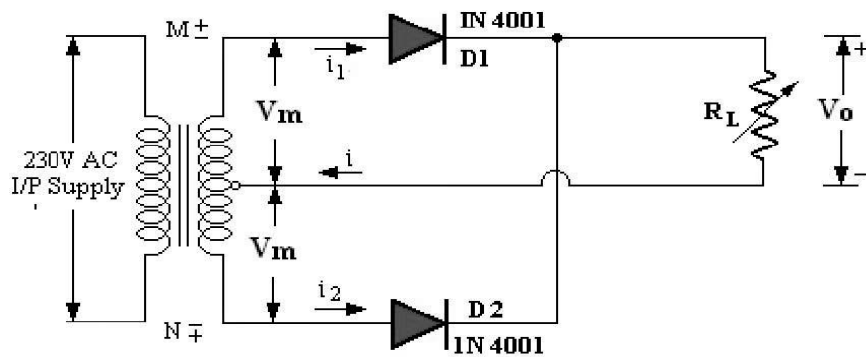

Figure 1: Full wave rectifier without filter.
Rectifier is an electronic device used for converting AC into pulsating DC and this process is known as Rectification. Like the half wave circuit, a full wave rectifier circuit produces an output voltage or current which is pulsating DC Full wave rectifier utilizes both the cycle of input AC voltage. Two diodes are used in full wave center tapped rectifier. Center Tapped Full wave rectifier using two diodes is shown in the figure 1. Center tapped transformer is used in this full wave rectifier. During the positive cycle diode D1 conducts and D2 remains OFF. During negative cycle diode D1 remains OFF but diode D2 is ON. Note that direction of current in the load resistance is same during both the cycles hence output consists of only positive cycles.
1. Connect the circuit for Center Tapped Full wave rectifier on breadboard as shown in Figure 1.